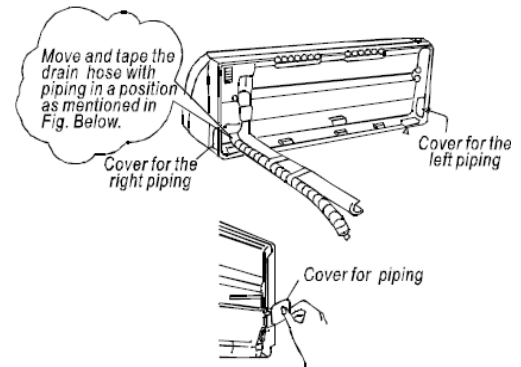

Figure 7
2. For the rear-right-hand and rear-left-hand piping, install the piping as shown in figure 7.